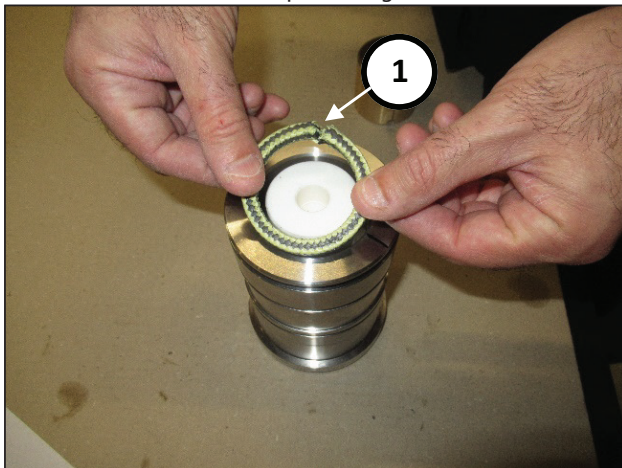

Fig. 180
Insert the three KC sealing rings, making sure that the notches are at 120° from each other (pos. ①, Fig. 180).